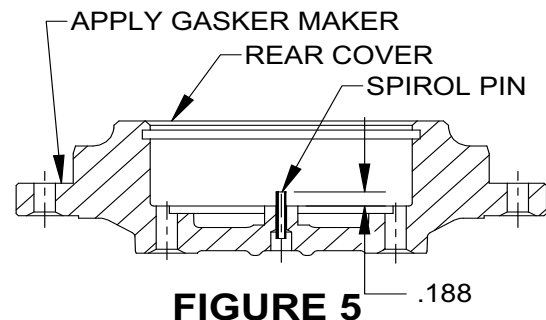

FIGURE 5 .188
8. Check and set end of spirol pin (#20) to be 3/16" from inside of rear cover (#18). See Figure 5.
11. Apply gasket maker around holes and to flange face of rear cover. (See Figure 5)